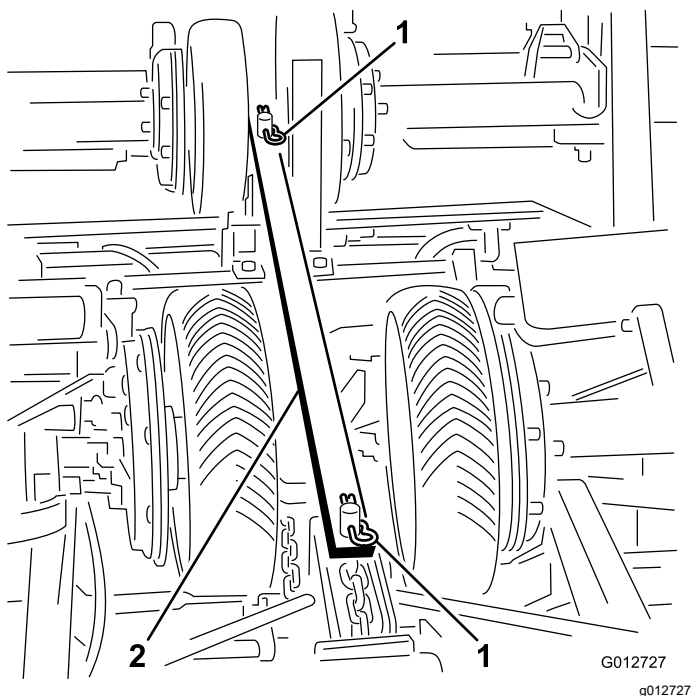

Figure 19
1. Remove hairpins securing the transport strap to the center frame channel and lift off the strap (Figure 19).
5. When mowing is to be resumed, remove transport strap from lift arms. Store on center frame channel and secure with hairpin cotters (Figure 19). Remove lockup pin secured to